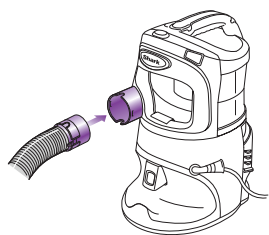

Fig. 1
- 1 Insert the end of the flexible hose into the connector on the back of the *Lift-Around™* Portable Vac. (fig. 1)